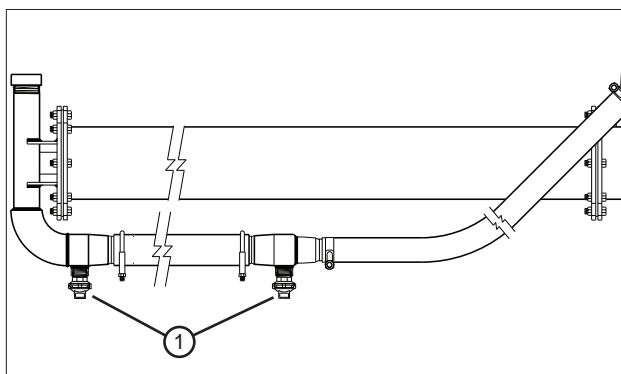

Figure 36-2 1. Booster Pump Hose Drain
- Make sure the booster pump hose drain is not plugged with sand. See figure 36-2.